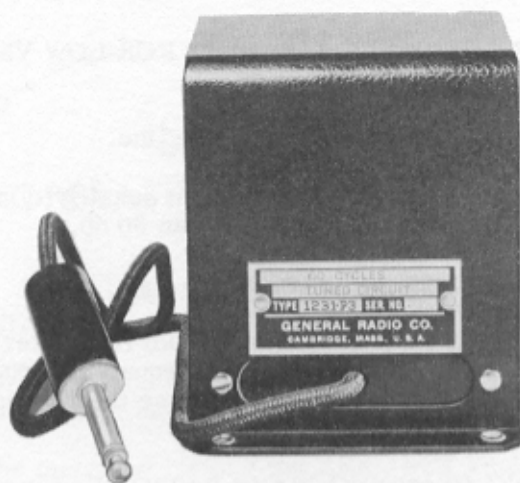

Figure 4. Type 1231-P3 Tuned Circuit
5.1 TUNED CIRCUITS. Types 1231-P2 (400 and 1000 cycles) and -P3 (60 cycles) Tuned Circuits (Figure 4) can be used as interstage filters with the Type 1231-B for suppressing harmonics, noise, and hum in single-frequency measurements. A telephone plug on each filter plugs into a panel jack on the Type 1231-B Amplifier and Null Detector. Filters thus connected are isolated by amplifier stages from the effects of varying input and output impedances and at the same time are at a high